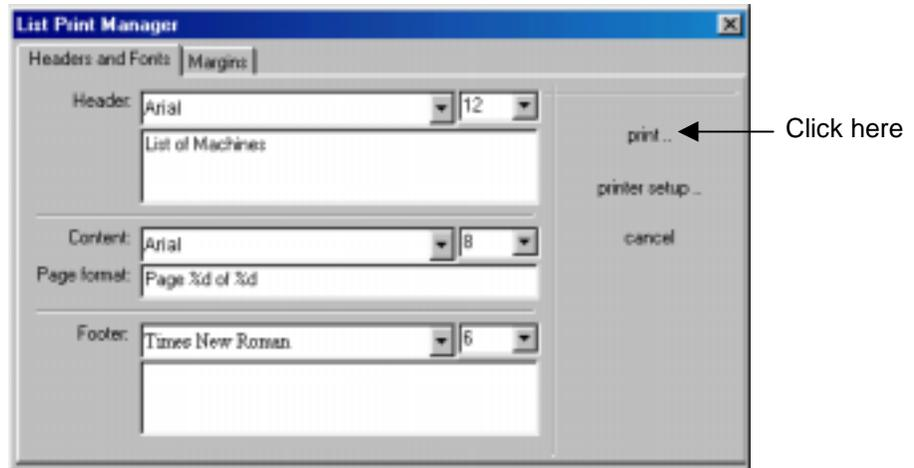

Figure 7.12 Printing the Machine List Report
3. In the List Print Manager Window click the Print button (Figure 7.12).